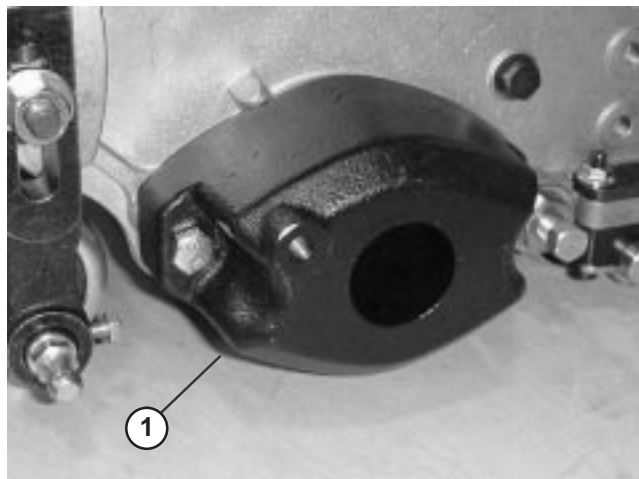

Figure 5
2. Bedknife adjusting screw nut (2)
- A. Remove the 2 capscrews securing the counter weight to the left end of the cutting unit. Remove the counter weight (Fig. 5).
- E. Apply grease to the inside diameter of the drive coupler. Install the drive coupler to the left end of the cutting unit reel tube with a snap ring (Fig. 5).